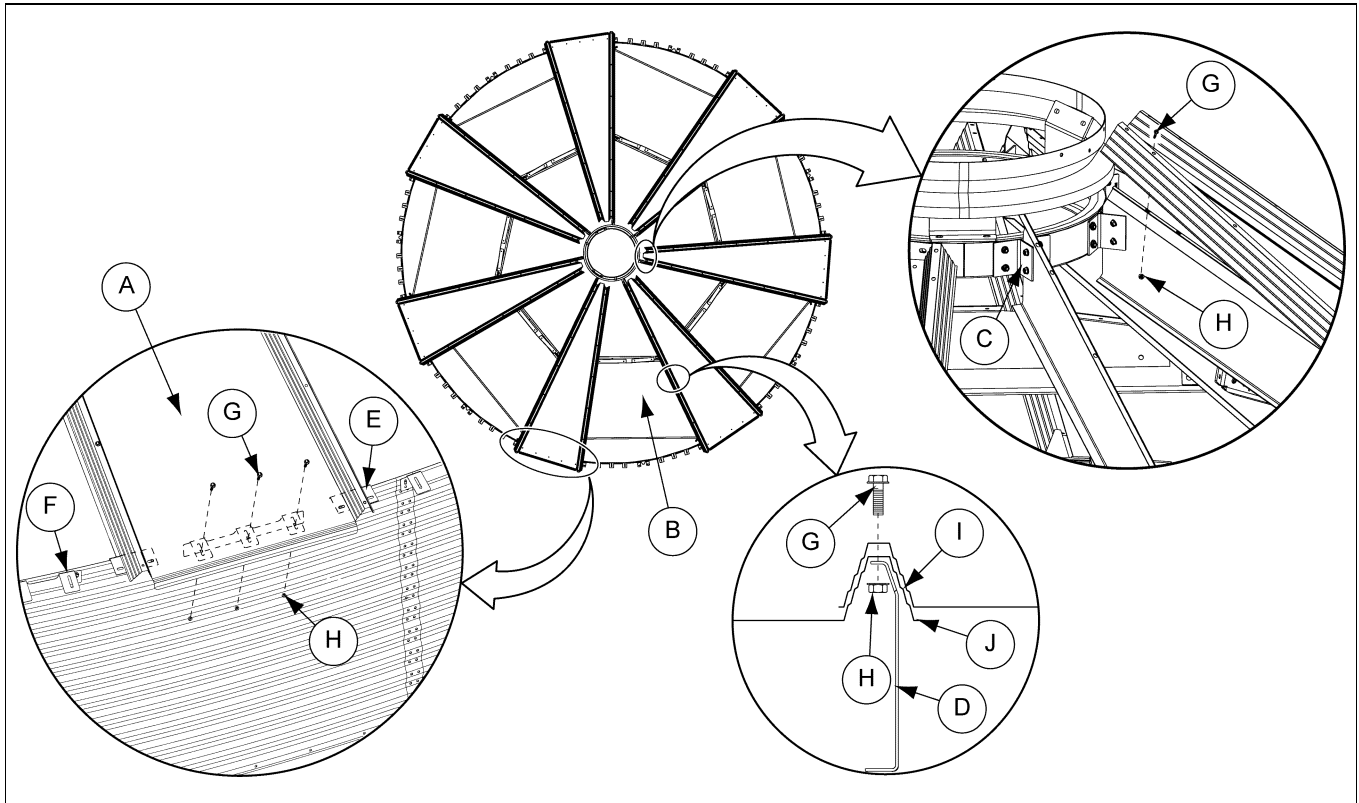

Figure 4Q Installing the Roof Panels
4. After the initial roof panels (A) are installed, fill in the exposed gaps (B). Working in a **counterclockwise** direction, install two (2) additional roof panels (as shown in Figure 4Q), overlapping each roof panel on the left.